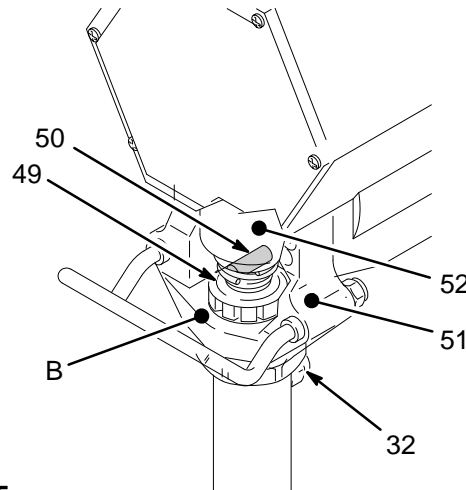

Fig. 15
1. Rotate the crankshaft (A) so the connecting rod is in its lowest position.
2. The pump piston rod (223) should protrude about 1 in. (25 mm) above the pump cylinder.
3. Screw the pump into the bearing housing (51) until its pin hole is aligned with the connecting rod (52) pin hole. Insert the pin (50). Position the spring (49) so it covers the ends of the pin. See Fig. 15.
4. Adjust the pump so the cylinder's top threads are flush with the face (B) of the bearing housing and the outlet nipple (32) is straight back. See Fig. 15.
5. Torque the locknut (6) to 80 ft-lb (107 N.m).